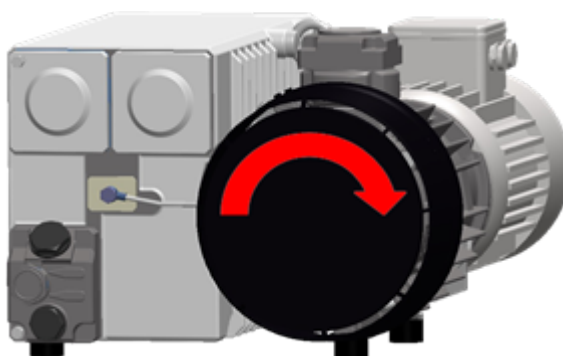

Figure 7: Direction of Rotation of the Vacuum Pump
3. Check the correct direction of rotation of the three-phase model pump. See *Figure 7: Direction of Rotation of the Vacuum Pump* on page 29.